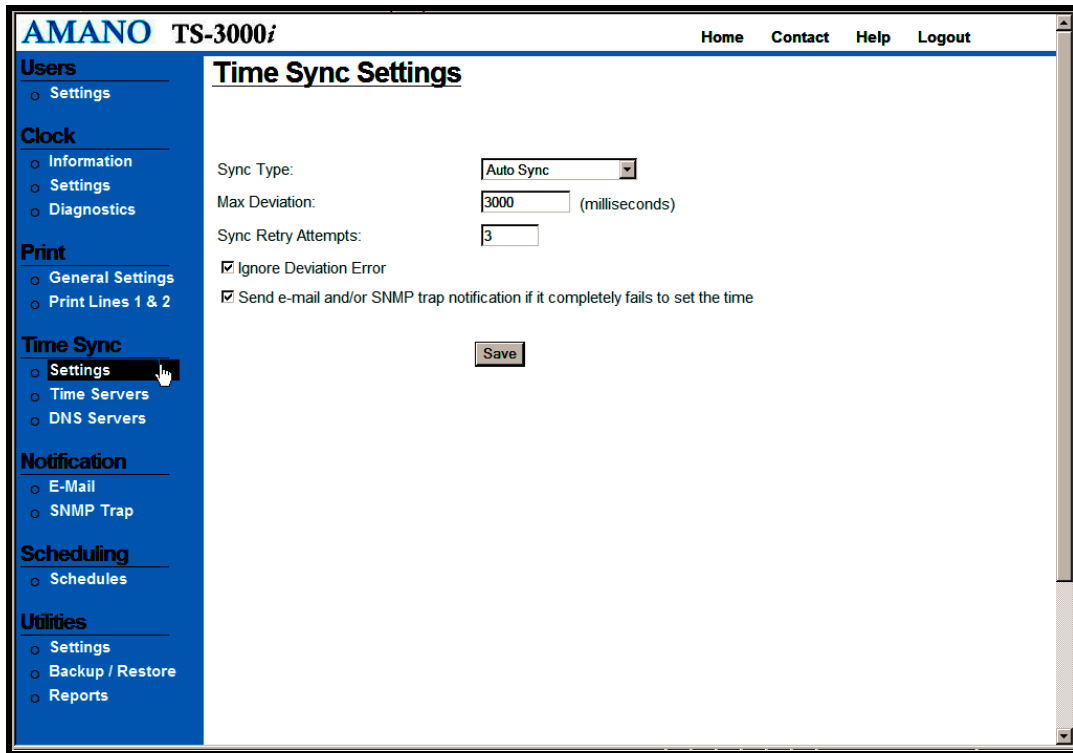

Figure 4-11: Time Sync Settings
- Step 1.** Click on the Settings link under Time Sync and the **Time Sync Settings** screen will appear (see *Figure 4-11*).